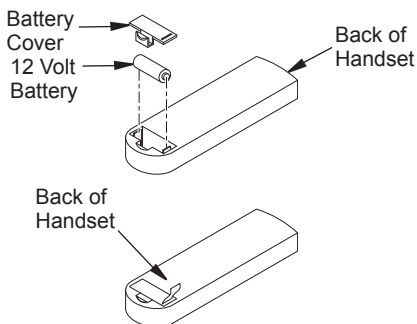

Figure 48 - Installing Battery Into Handset WRC
3. Activate the remote handset battery by removing the insulating tab on the back of the handset (see Figure 48, page 26). The battery is included pre-installed.